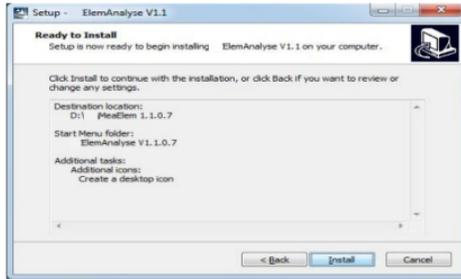

Figure 5-7
7. As shown in figure 5-7 interface, click the "Install", the system will begin to install the software